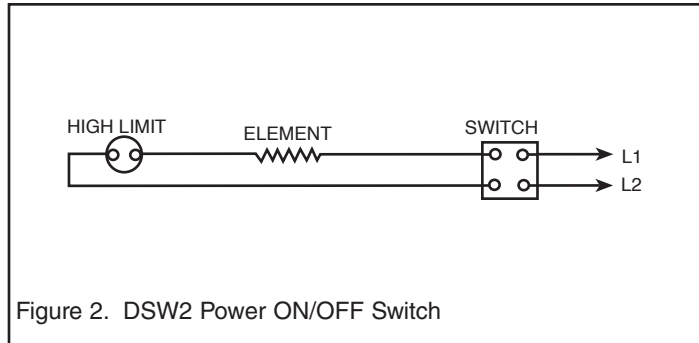

Figure 2. DSW2 Power ON/OFF Switch
3. Connect the Power ON/OFF switch leads to the heater and power leads as shown in the wiring diagram, (Figure 2).